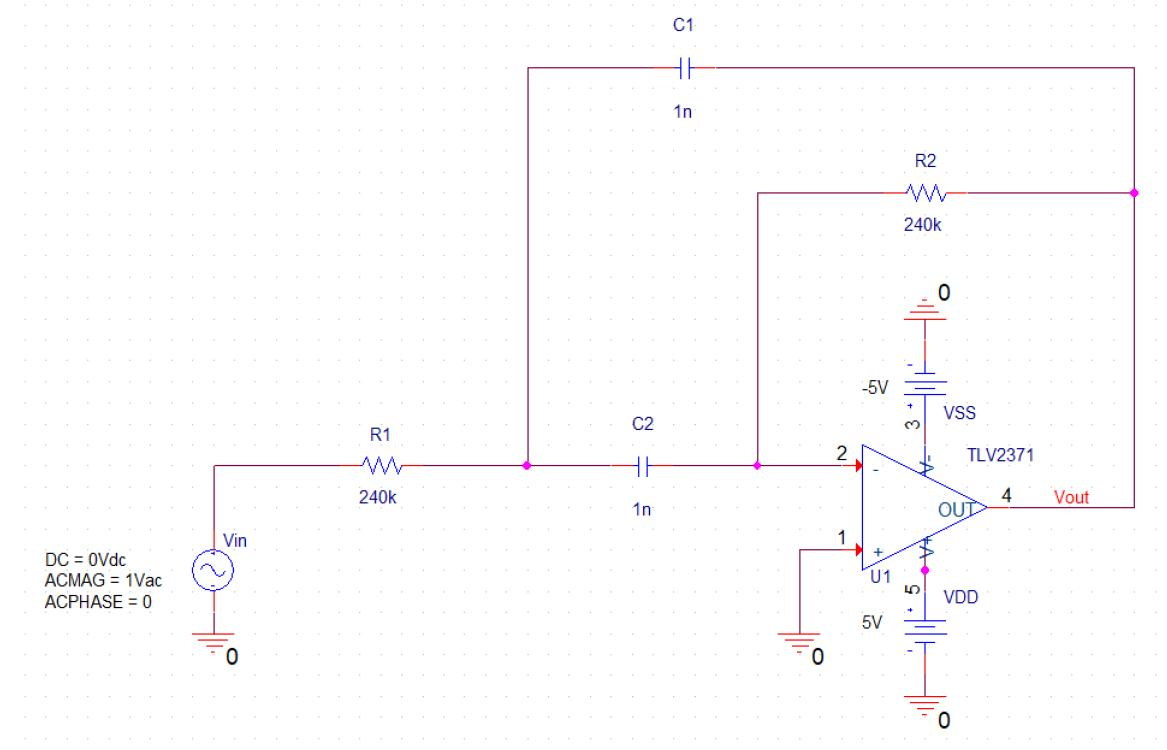

Fig. 6 Schematic diagram of the second-order bandpass filter
- 3.1 In PSpice, construct the second-order bandpass filter (BPF) as shown in Fig. 6 using an operational amplifier TLV2371IP, two $240\text{ k}\Omega$ resistors, and two 1 nF capacitors, respectively. Here, V_{in} provides the AC signal input for this second-order BPF. The DC and AC values of the AC voltage source V_{in} are set to 0 V and 1 V, respectively.
- 3.3 Based on Fig. 6, construct the measurement setup for the second-order BPF.